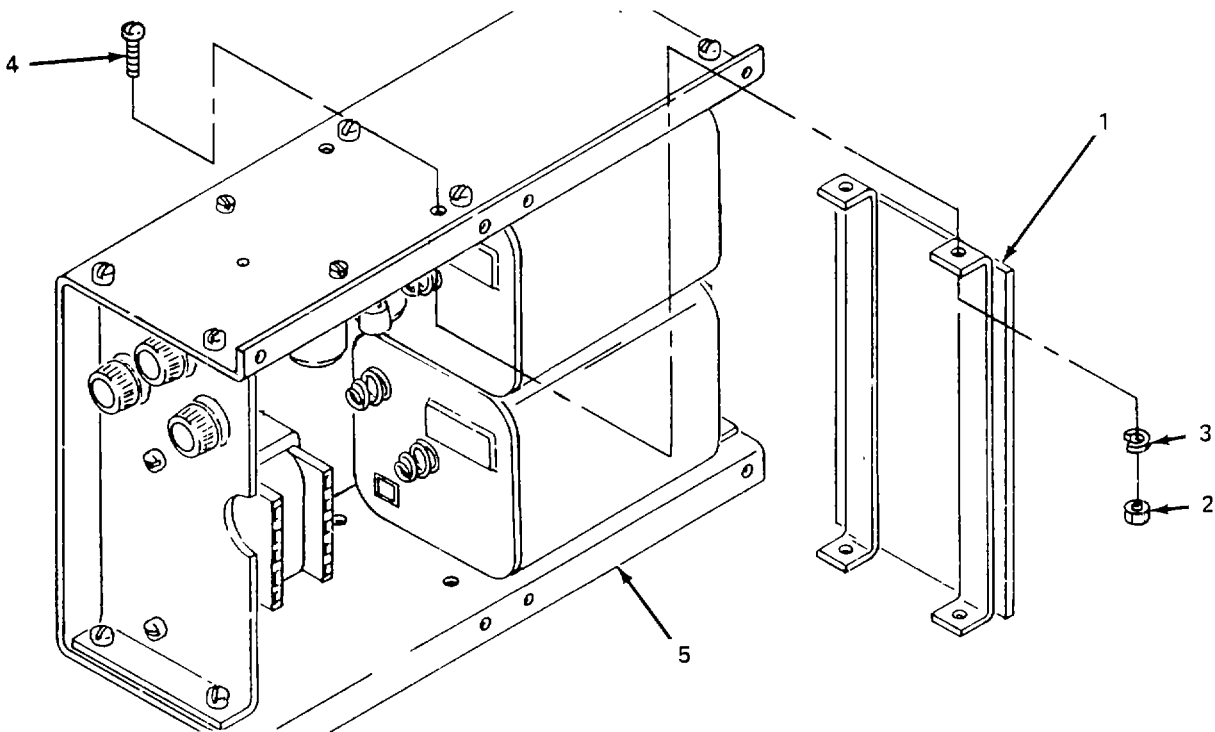

Figure 5-43. Battery Card and Case Battery Contact P.C. Card, Replace.
(2) *Replace battery contact P.C. card. (figure 5-43)*
- (b) Tag and disconnect wires from battery contact P.C. card (1).
- (c) Remove four nut (2), lockwashers (3), and screws (4) and remove battery contact P.C. card (1).
- (d) Install battery contact P.C. card (1) in battery card and case (5), and secure with four screws (4), lockwasher (3), and nuts (2).
- (e) Connect wires to battery contact P.C. card (1).